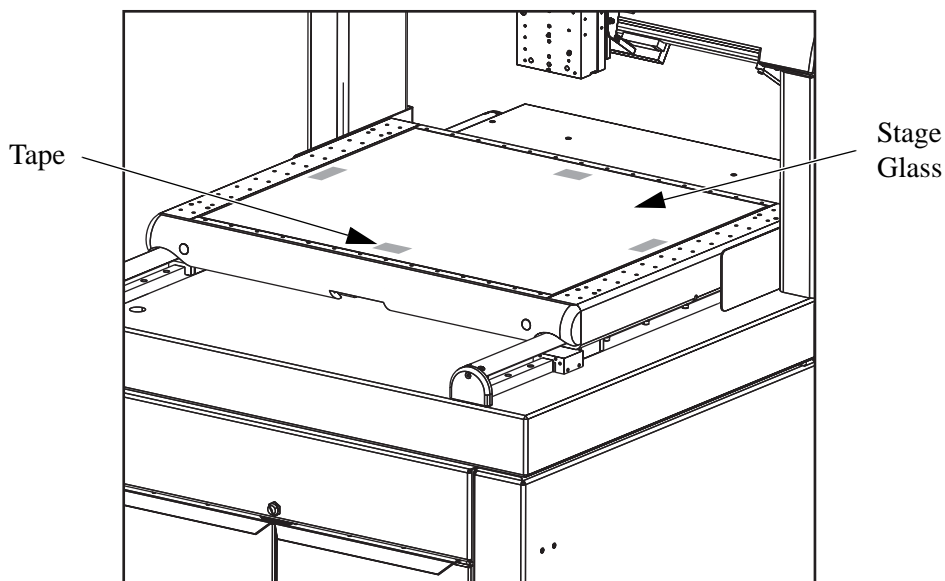

Figure 6-1 Tape Locations on the Stage Glass
2. Attach four pieces of masking tape (or similar tape) to the stage glass in the approximate locations shown in Figure 6-1.